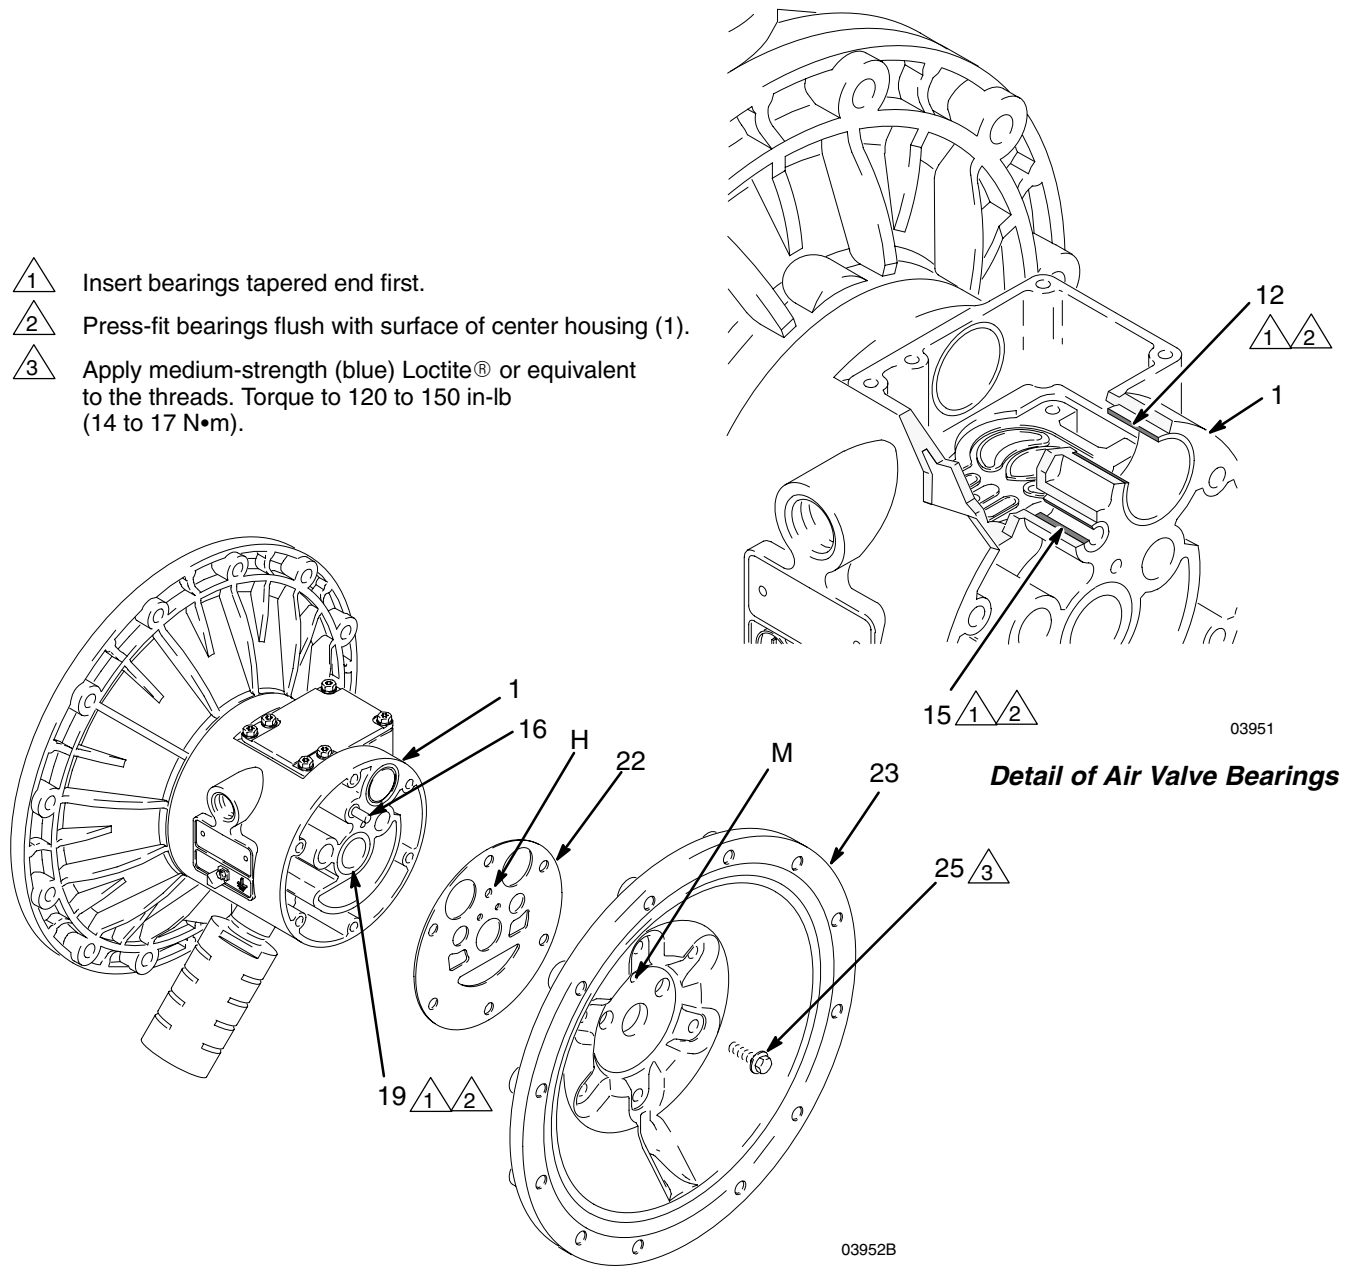

Fig. 13
5. Using a 10 mm socket wrench, remove the screws (25) holding the air covers (23) to the center housing (1). See Fig. 13.
6. Remove the air cover gaskets (22). Always replace the gaskets with new ones.
7. Use a bearing puller to remove the diaphragm shaft bearings (19), air valve bearings (12) or pilot pin bearings (15). Do not remove undamaged bearings.
1. If removed, install the shaft u-cup packings (402*) so the lips face **out** of the housing (1).
2. The bearings (19, 12, and 15) are tapered and can only be installed one way. Insert the bearings into the center housing (1), **tapered end first**. Using a press or a block and rubber mallet, press-fit the bearing so it is flush with the surface of the center housing.
4. Align the new air cover gasket (22) so the pilot pin (16) protruding from the center housing (1) fits through the proper hole (H) in the gasket.
5. Align the air cover (23) so the pilot pin (16) fits in the middle hole (M) of the three small holes near the center of the cover. Install the screws (25), handtight. See Fig. 13. Using a 10 mm socket wrench, torque the screws oppositely and evenly to 120 to 150 in-lb (14 to 17 N•m).